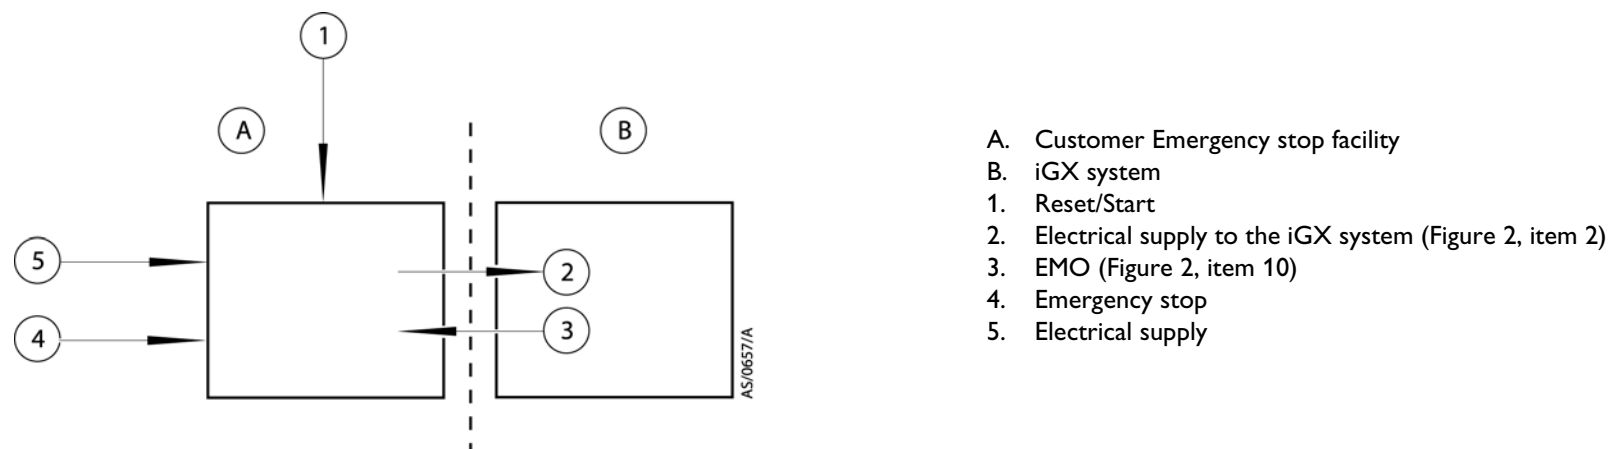

Figure 9 - Connections to emergency stop circuit (systemable)
The EMO connector (Figure 2, item 10) must also be connected to an emergency stop facility to stop the pump immediately, in the same way as the emergency stop function. Refer to Figure 9 and Table 5 of the Technical Data Section (A536-00-840) for connection details.